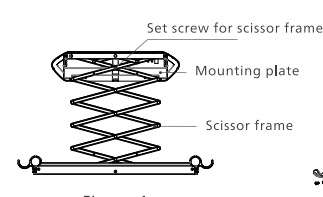

Figure 4
1. As shown in Figure 4, buckle pulley of scissor frame into the chute of mounting plate and lock it with screws.